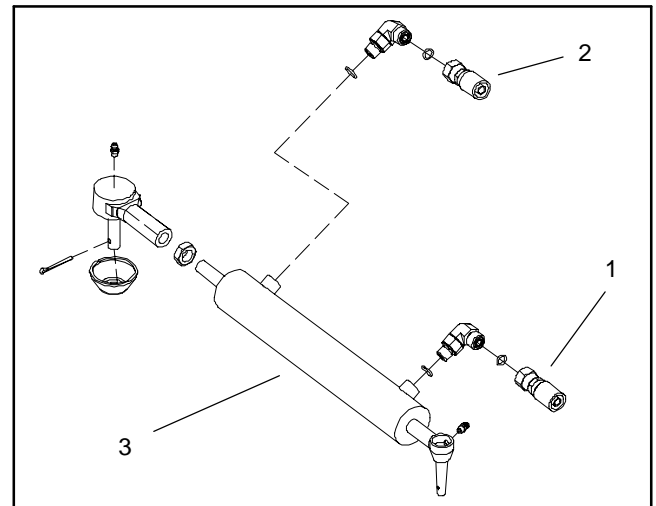

Figure 53
5. Disconnect hydraulic hoses from steering cylinder (Fig. 53). Allow hoses to drain into a suitable container.
6. Lubricate new O-rings and connect hydraulic hoses to steering cylinder (Fig. 53). Tighten hose connections.